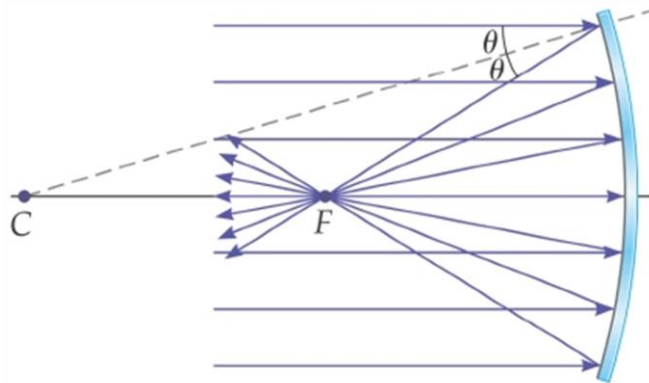

Figure 4
Consider light rays, parallel to the principal axis, reflecting from a concave mirror, as shown in Figure 4. Each ray is governed by the law of reflection. For example, the topmost ray is incident at angle θ measured with respect to a normal at the point of incidence and reflected by angle θ
3. Position the light source so that the center ray follows the line you just drew. Place the mirror on the paper so that the **concave** side of the mirror faces the light source. The five rays should reflect back in a way similar to that shown in Figure 4. The reflected light rays should all meet at one point, the focal point, which should be along the centerline you drew on the page.